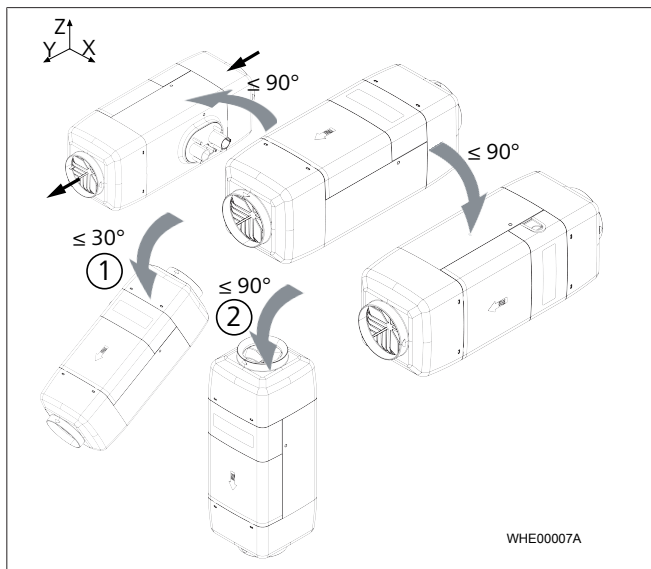

Fig. 3 Permissible installation position
- ✓ Ensure the correct installation position. See Fig. 3.